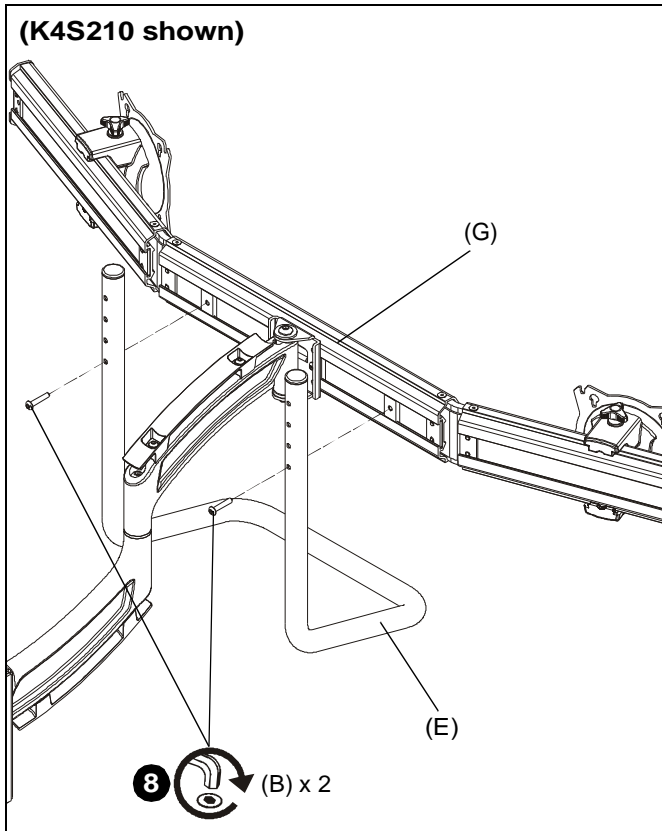

Figure 5
8. Use two #10-32 x 1" button head cap screws (C) to secure two handle (E) to array arm (G). (See Figure 5)